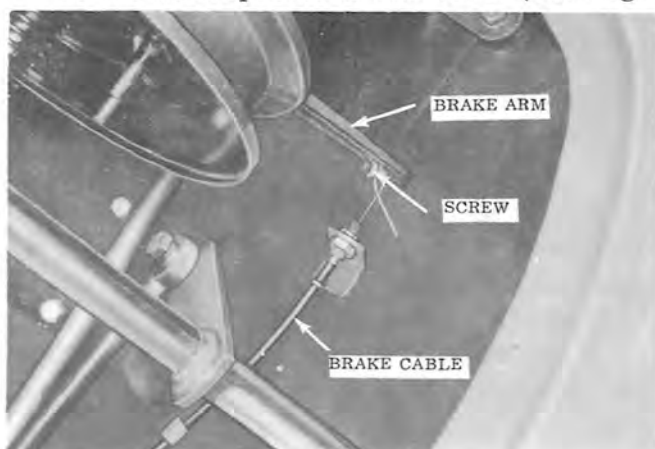

Figure 15
4. Remove brake cable from brake arm by removing the screw (See Figure 15).